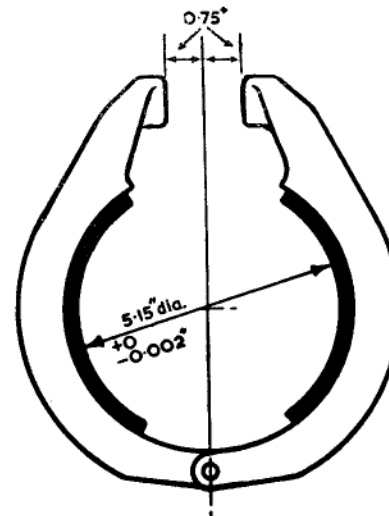

Fig. 8. Brake liner dimensions
83. When the brake shoe liners are worn they can be removed from the shoes, using a sharp knife or chisel and finally scraping the shoe surface, and replaced by new liners which are Reduxed to the shoes. When the liners are secured the shoes must be set as in fig. 8, and the braking surface bored to $5.15 \begin{smallmatrix} +0 \\ -0.002 \end{smallmatrix}$ in.